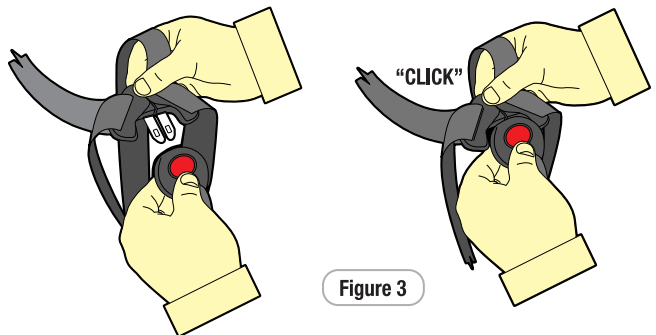

Figure 3
**Step 3:** Engage and disengage the Harness Tongues and Buckles several times until a strong audible **“CLICK”** is heard when inserting the last tongue (refer Figure 3).